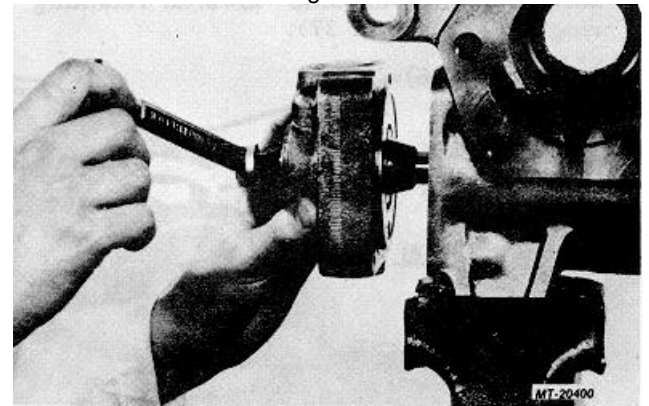

Fig. 34
27. Align timing marks on valve sleeve (15) and worm shaft (17) and assemble valve housing (9) onto worm shaft. Make sure drive ring (16) teeth engage notches in valve sleeve (15). Use a box end wrench to rotate worm shaft to pull valve housing (9) down against housing (20)(Fig. 34).